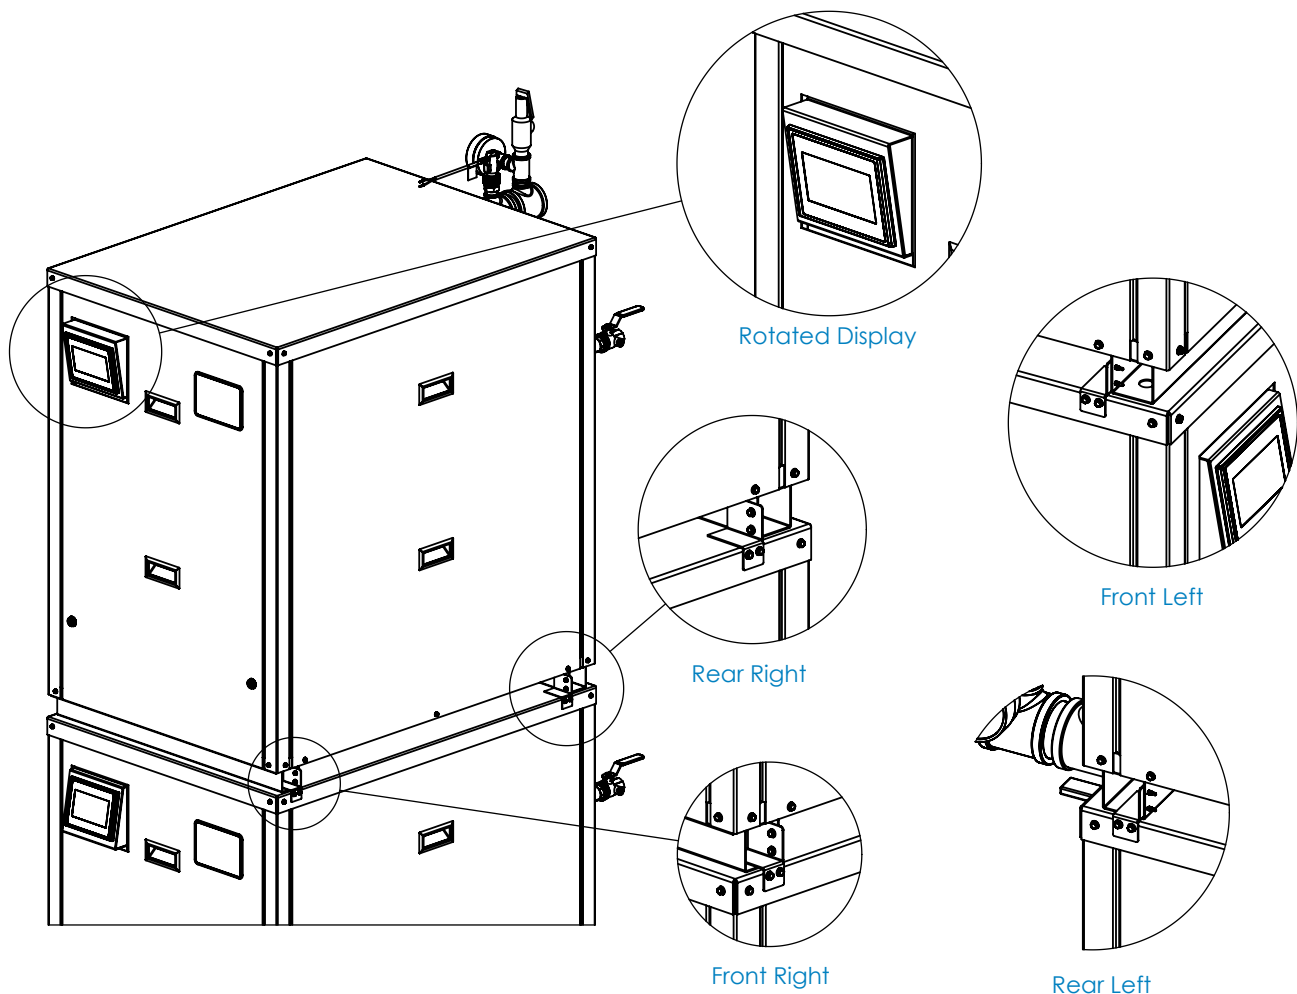

Figure 5: BFIT 400-1000L Stacking Brackets and Display Rotation
- b. Use the included screws to secure the brackets as shown in Figure 5.